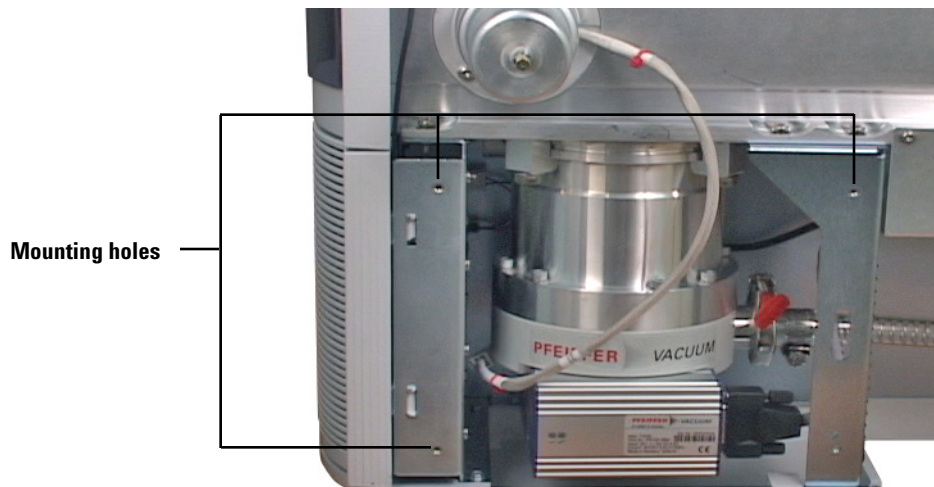

Figure 10 GC/MSD interstitial panel mounting holes (turbo pump shown)
- 2 If not installed, install the GC/MSD interstitial panel (part number G2589-00031) onto the midsupport and front-support legs of the right side of the MSD. Use three M4 T-15 screws. See Figure 10.